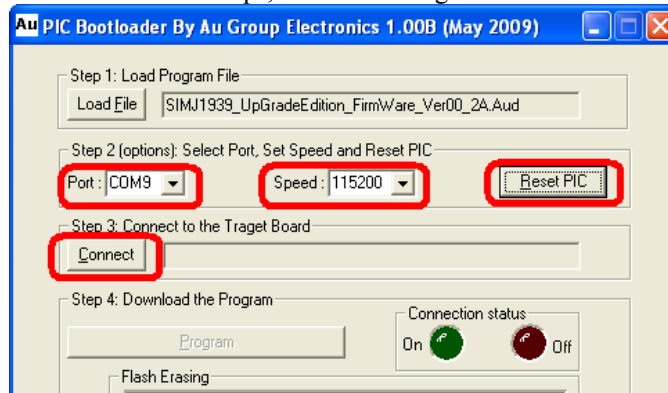

Figure C-12
- Set the communication Baud Rate at 115200 bps, as shown in Figure C-12
Connect +9~+12V DC power supply to Au FMS Simulator at the "FMS" side, then click “Reset PIC” button on Au PIC Bootloader User Interface (Figure C-12)."BTLD" LED will be blinking.
Within 10 seconds, click “Connect” button (Figure C-12).